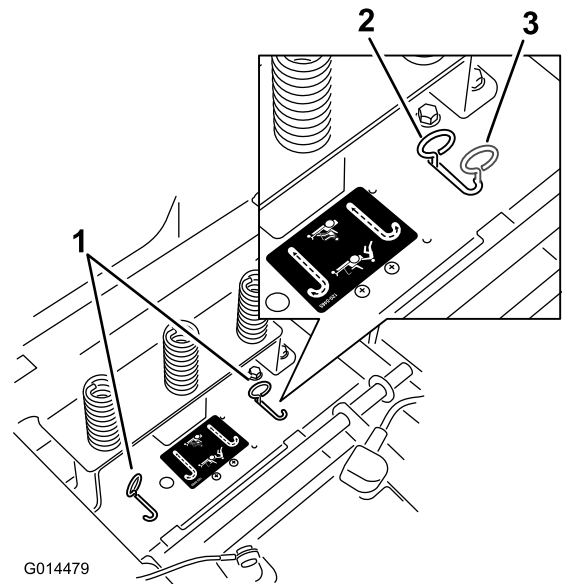

Figure 23
4. Move the bypass levers forwards and then out to lock them in place as shown in Figure 23 to disengage the wheel motors. Repeat this for each lever.
Move the bypass levers inward and push them back in the horizontal slot (Figure 23) to engage the wheel motors.